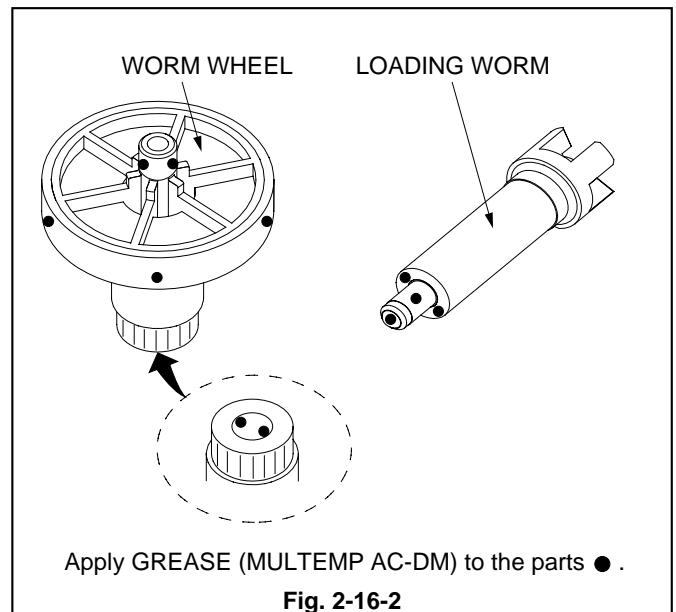

Fig. 2-16-2
1. Apply GREASE (MULTEMP AC-DM)[859D055O90] to the LOADING WORM shown in the Fig. 2-16-2.
2. Apply GREASE (MULTEMP AC-DM)[859D055O90] to the WORM WHEEL shown in the Fig. 2-16-2.